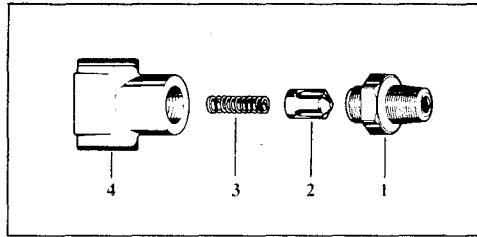

FIGURE 1-36
- (1) Early pumps were equipped with an overflow valve as shown in Fig. 1-36. Remove by engaging open end wrench on flats of retaining screw (1).
- (2) **Carefully** clamp reinforced flats of housing (4) in a **SOFT-JAWED** vise. **Do Not Crush** housing by overtightening vise.
- (3) Remove retaining screw (1), valve (2) and spring (3) from housing (4).